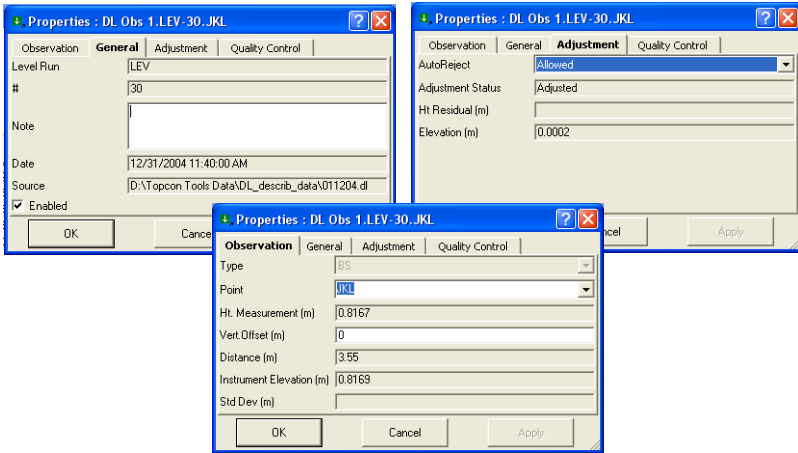

Figure 5-127. General and Adjustment Properties
2. Edit the *Note* in the *General* tab, *AutoReject* in the *Adjustment*, the *Point* and *Vertical Offset* in the *Observation* tab as needed (Figure 5-127).
- View or edit *General* tab fields (Figure 5-127 on page 5-90). Edit the *Point To*, *Distance*, *Notes*, and *#* parameters as needed.